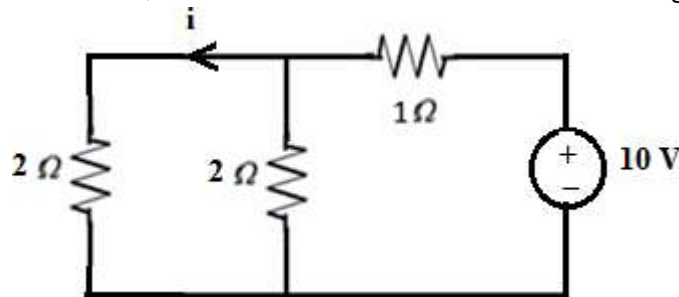

Figure: 2
b) Using basic tieset matrix, find current 'i' in the circuit shown in figure 2. [7+8]